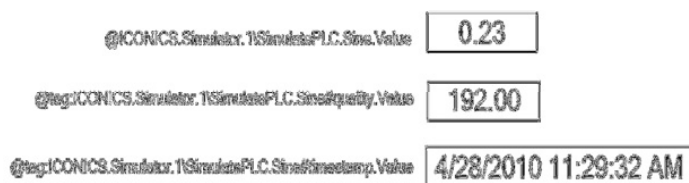

Figure 2 - EPS in GraphWorX64
7. When you add a couple of PPTs with different properties on a GraphWorX64 display you would get the similar output as it is shown on Figure 2.